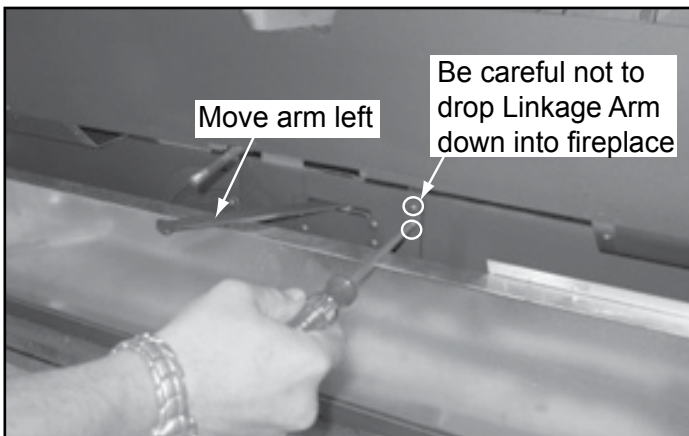

Figure 4.15 Remove Upper Arm
- Remove two screws from timer linkage upper arm. Be careful NOT TO DROP arm in bottom of fireplace. See Figure 4.15